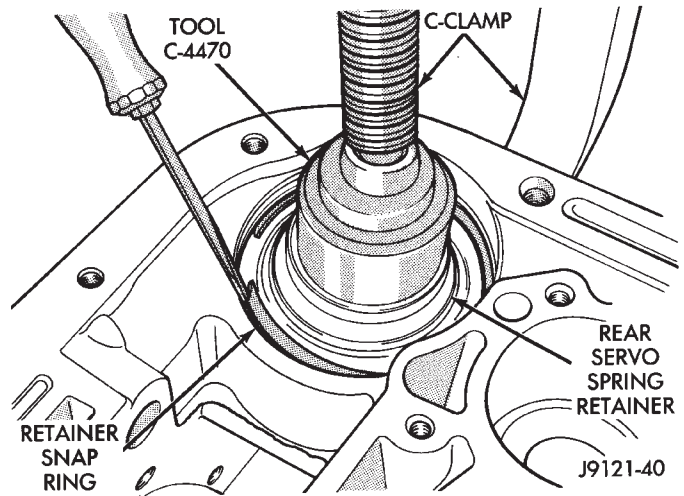

Fig. 131 Installing Rear Servo Snap Ring—46RH overdrive piston retainer. Center hole in gasket is smaller than retainer and cannot be installed over retainer.
(4) Compress rear servo piston with C-clamp or Valve Spring Compressor C-3422-B and install servo piston snap ring (Fig. 131).